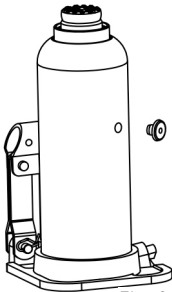

Fig. 2
1. Lower the ram and remove the oil plug (Fig. 2).